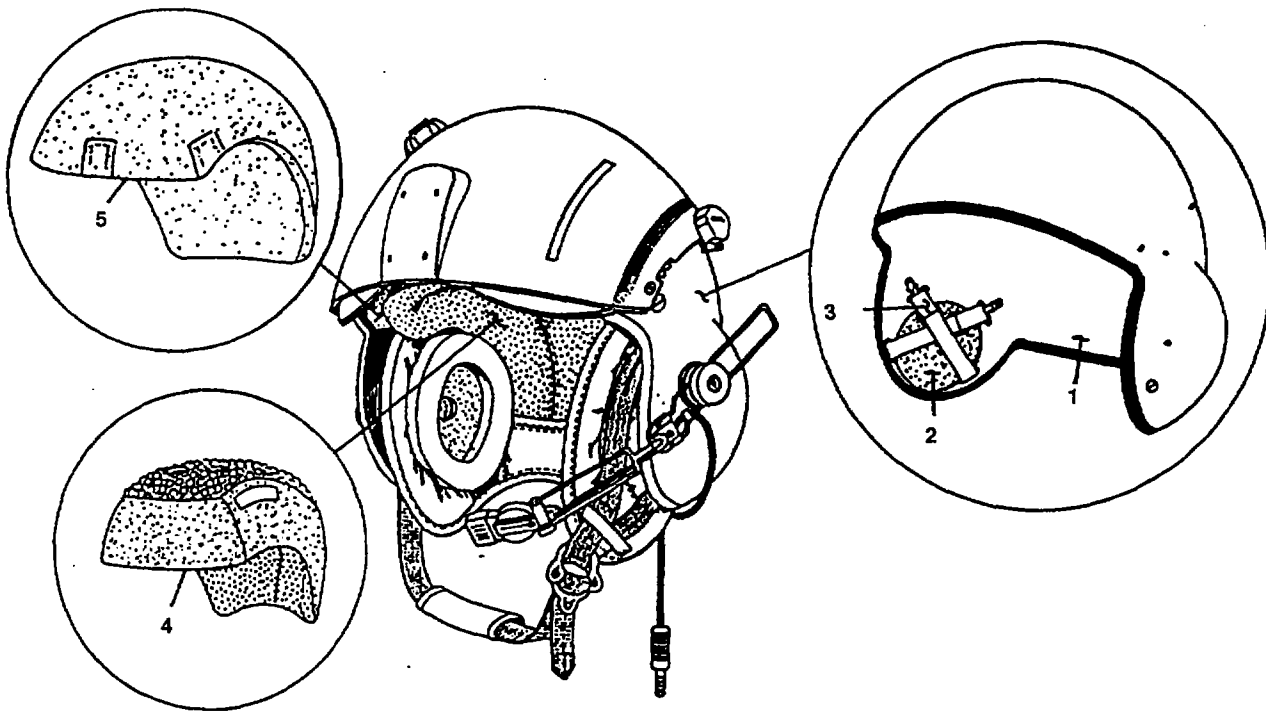

Figure 1-2. SPH-4B Helmet Shell and Liner System
a. **Helmet Shell (Figure 1-2).** Finished with rubber edge beading, the lightweight composite helmet shell (1) protects the head from impact. Chafing pads (2) prevent the earcups from chafing against the shell. Cross straps (3) regulate earcup tension, thereby controlling earseal compression for optimum fit and noise reduction.
b. **Liner System (Figure 1-2).** The SPH-4B liner system replaces the sling suspension systems of earlier SPH models. It consists of two liners: an energy-absorbing liner and a thermoplastic liner.
(1) **Energy Absorbing Liner.** The polystyrene energy-absorbing liner (5) absorbs and reduces impact forces. It is attached to the inside surface of the helmet shell with hook-and-pile fasteners.
(2) **Thermoplastic Liner.** The liner (4) is a lightweight comfort liner. It consists of layers of molded plastic attached to a removable, washable cloth cover. The sides of the cloth cover are made of pile fastener to attach the liner to hook-and-pile fastener on the inside surface of the energy-absorbing liner. The preformed liner fits most head shapes.